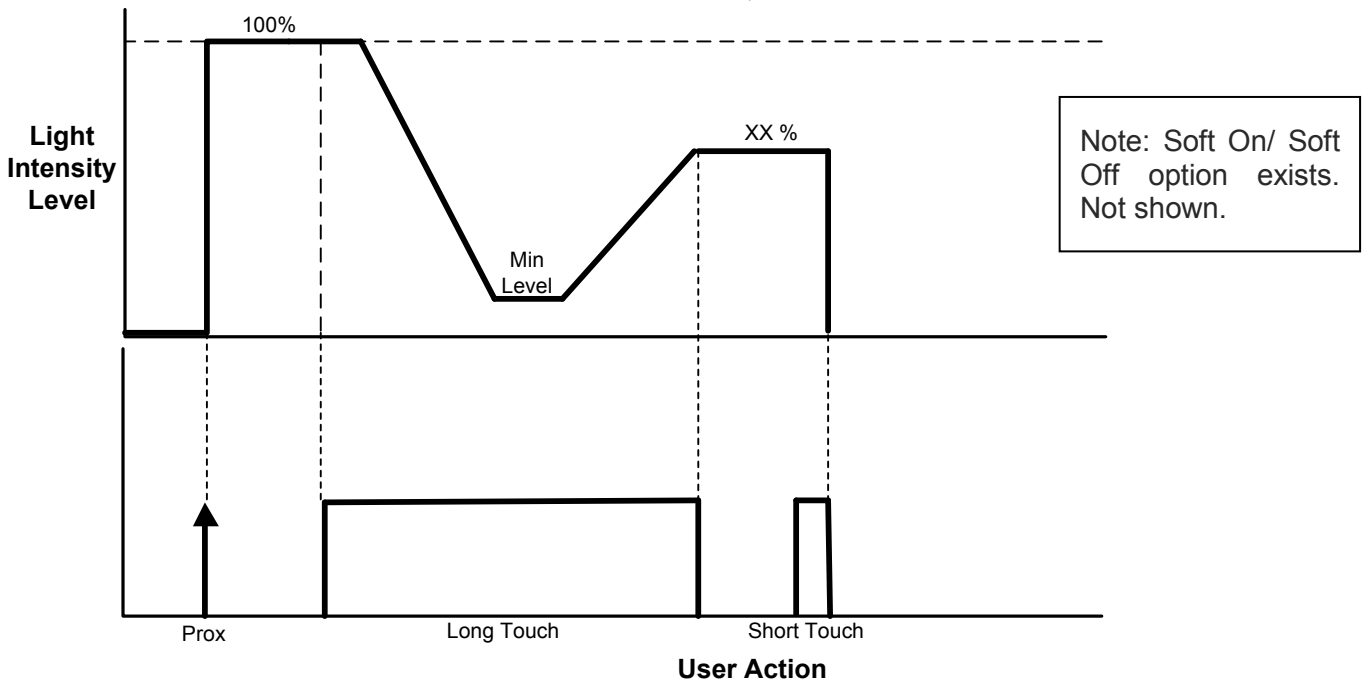

Figure 5.3 IQS924 Custom UI 1 illustration
5.2 Custom UI 1 (Refer to Figures 5.3 and 5.4)